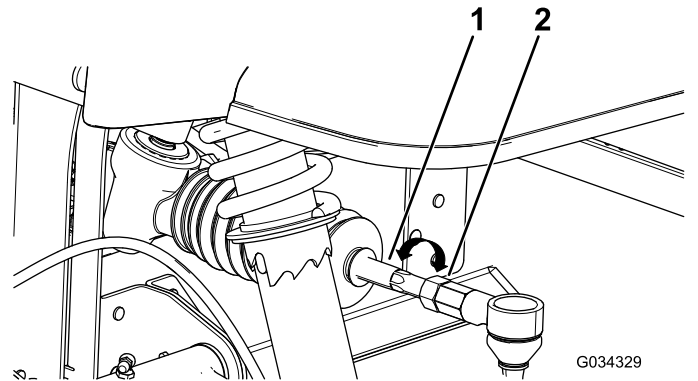

Figure 48
4. If the measurement does not fall within 0 +/- 3 mm (0 +/- 1/8 inch), loosen the jam nuts at the outer end of the tie rods (Figure 48).